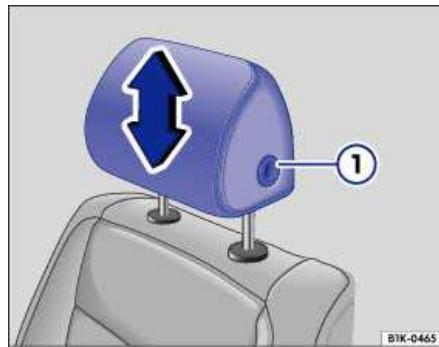
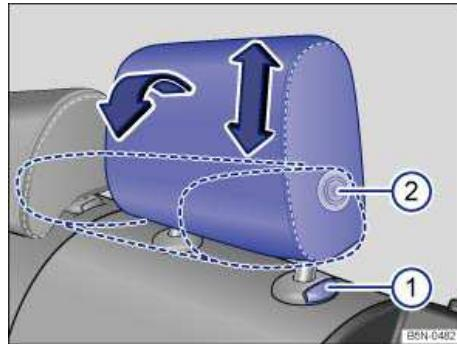

Fig. 47 Adjusting the front head restraints.
Fig. 48 Adjusting or folding the rear head restraints.
- Push the head restraint up in the direction of the arrow or down when the button \Rightarrow fig. 47 \(1\) or \Rightarrow fig. 48 \(1\) is pressed \Rightarrow